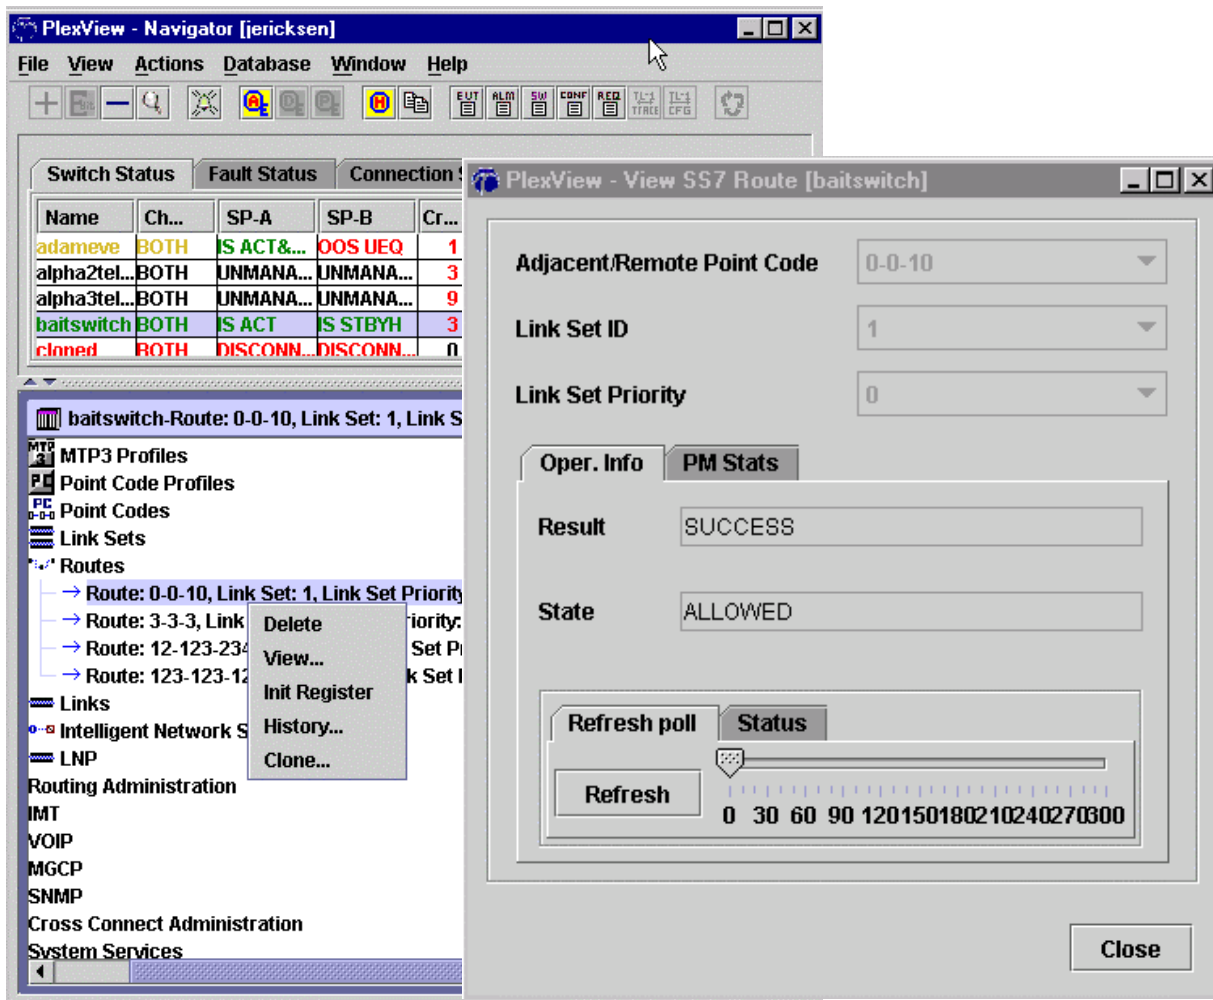

Figure 1. SS7 Route Status
5. Retrieve status of a SS7 route. Double-click *SS7* and then *Routes*. Right-click a route and select *View, Oper. Info* and then click *Refresh* near the bottom of the panel for latest information. See Figure 1.